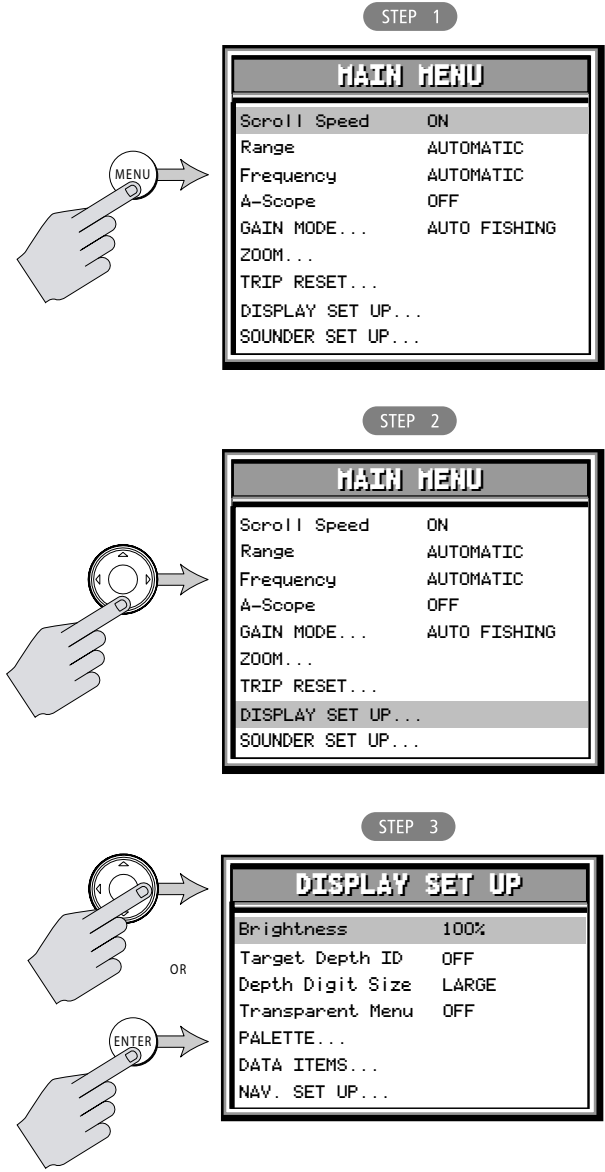

Figure 5-1: Accessing Display Set Up Menu Items
- Figure 5-1* also demonstrates how to access the Display Set Up menu items. A description of how to browse the menu and make selections is outlined in *Selecting MENU Items* on page 25.